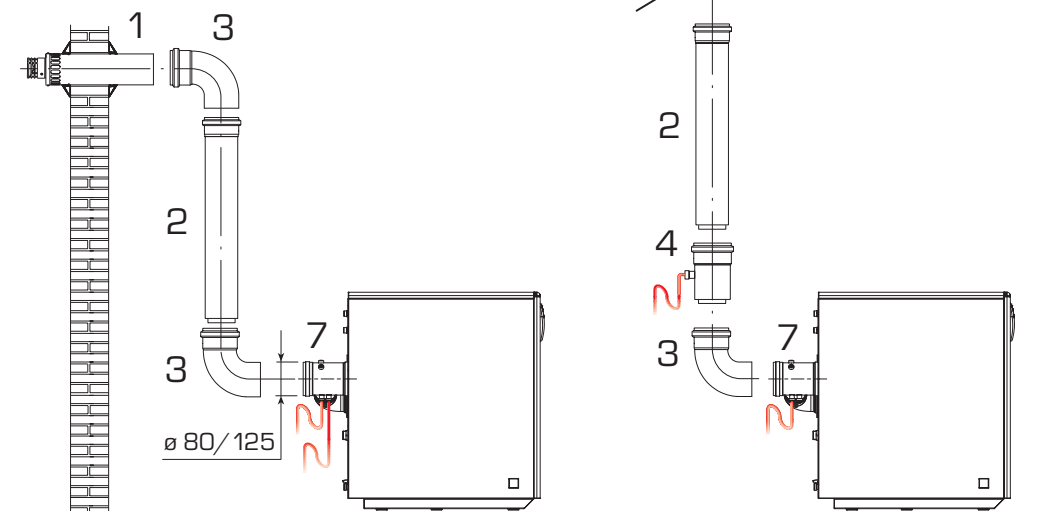

Fig. 6
2.3.2 Smoke exhaust with ø 80/125 coaxial flue [fig. 6]
Boilers are set to be connected to ø 80/125 stainless steel coaxial flues that can be adjusted to the most suitable direction for room requirements (fig. 6).